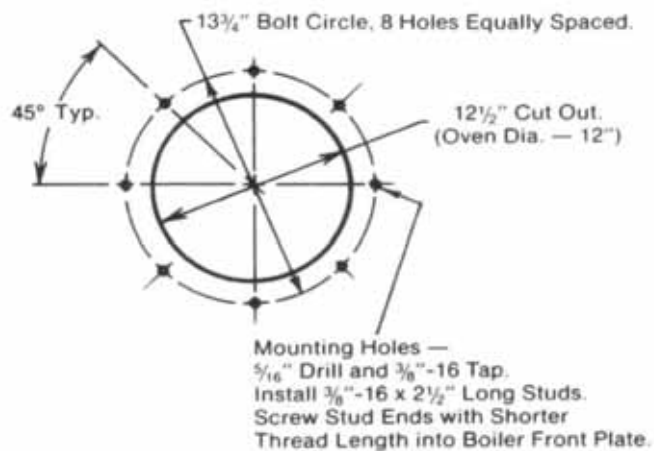

FIGURE 2-5. M 14-22 Mounting Dimensions
3. Refer to Figures 2-5 through 2-8 for bolt circle and cut out dimensions.